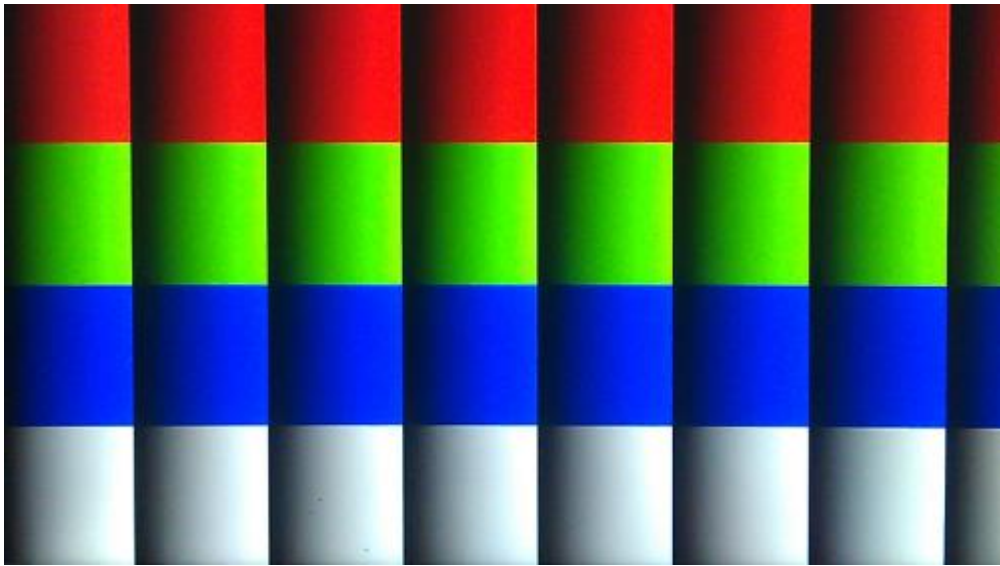

Figure 7-4 The Video pattern used in the HDMI TX Demonstration
- Wait for a few seconds for the LCD monitor to power up itself. And you should see a pre-defined video pattern shown on the monitor, as shown in **Figure 7-4**.